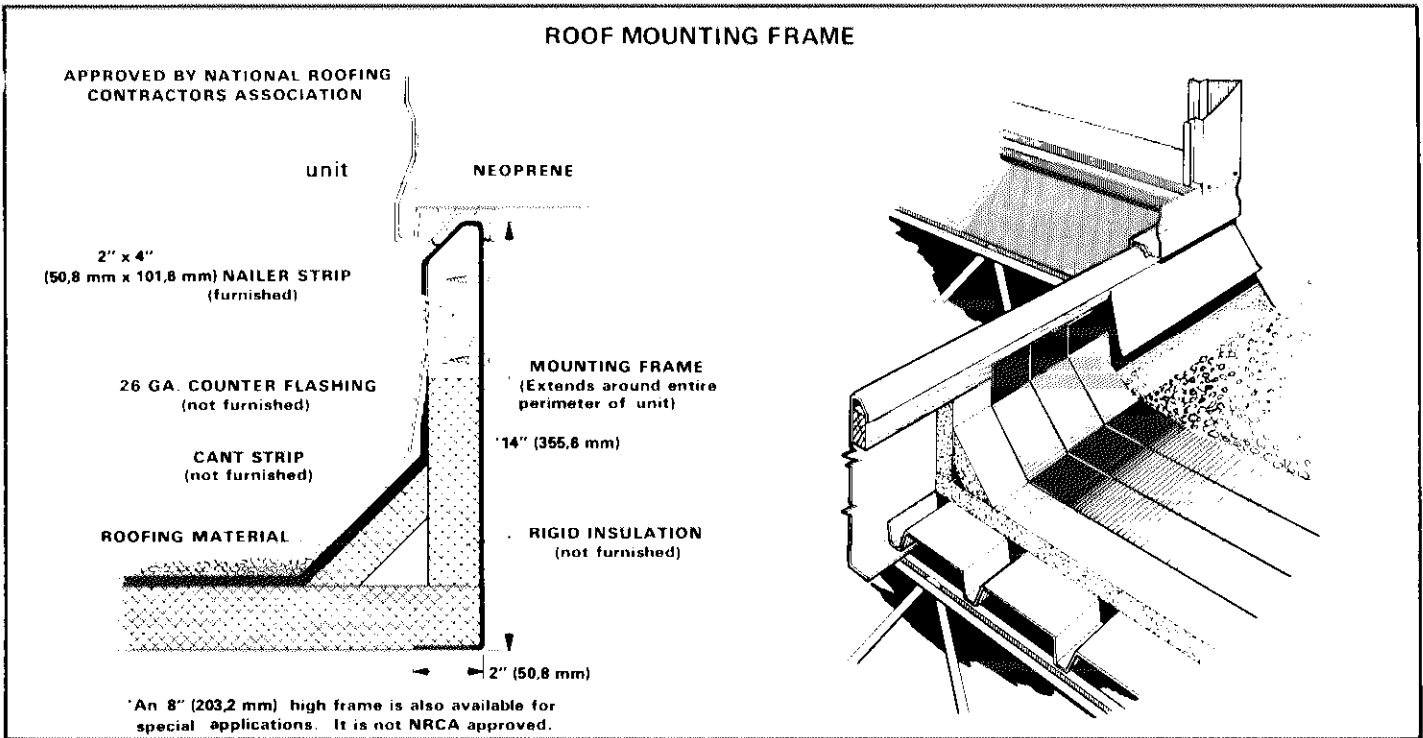

FIGURE 4
- 2 - Counter flash and seal around mounting frame using approved roofing methods. Refer to Figure 4.